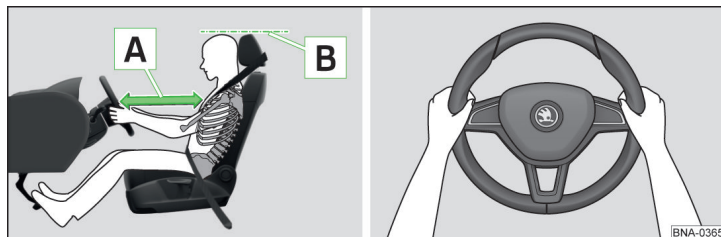

Fig. 1 Correct seated position for the driver/correct steering wheel position
- ✓ Adjust the steering wheel so that the distance between the steering wheel and your chest is at least 25 cm » fig. 1 - A.
- ✓ Adjust the headrest so that the top edge of the headrest is at the same level as the upper part of your head (not for seats with integrated headrests) » fig. 1 - B.
- When driving, hold the steering wheel with both hands firmly on the outer edge in the "9 o'clock" and "3 o'clock" position » fig. 1. Never hold the steering wheel in the "12 o'clock" position or in any other way (e.g. in the middle, inner edge of the steering wheel or similar). Otherwise, in the event of airbag deployment, you could suffer serious injury to the arms, hands and head.
- ✓ Adjust the headrest so that the top edge of the headrest is at the same level as the upper part of your head » [fig. 1 on page 10 !\[\]\(4c660a3c4ce1da3313488b7854f55083_img.jpg\)](#) (not for seats with integrated headrests).
- ✓ Adjust the headrest such that the top edge of the headrest is at the same level as the upper part of the head » [fig. 1 on page 10 !\[\]\(0f13e74bece43321be4542883500ac30_img.jpg\)](#).